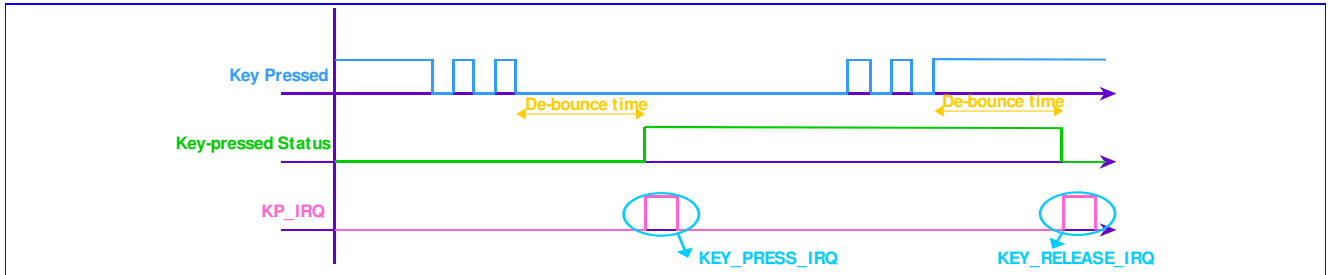
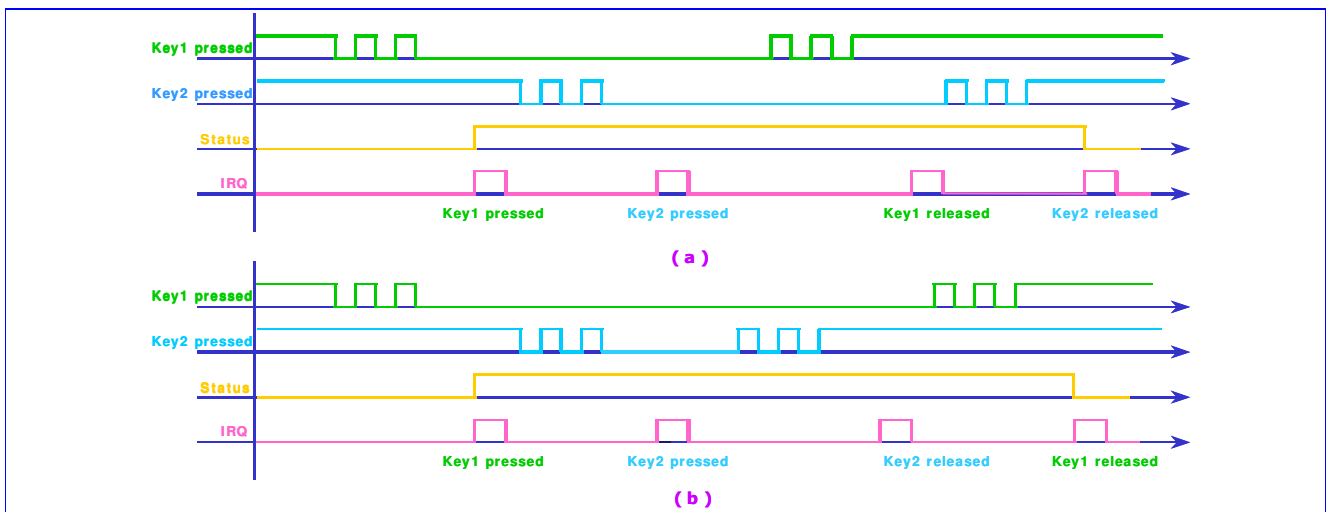

Figure 37 One key pressed with de-bounce mechanism denoted
Figure 38 Two keys pressed, case 1 (b) Two keys pressed, case 2
This keypad can detect one or two key-pressed simultaneously with any combination. **Figure 37** shows one key pressed condition. **Figure 38(a)** and **Figure 38(b)** illustrate two keys pressed cases. Since the key press detection depends on the HIGH or LOW level of the external keypad interface, if keys are pressed at the same time and there exists a key that is on the same column and the same row with the other keys, the pressed key cannot be correctly decoded. For example, if there are three key presses: key1 = (x1, y1), key2 = (x2, y2), and key3 = (x1, y2), then both key3 and key4 = (x2, y1) are detected, and therefore they cannot be distinguished correctly. Hence, the keypad can detect only one or two keys pressed simultaneously at any combination. More than two keys pressed simultaneously in a specific pattern retrieve the wrong information.